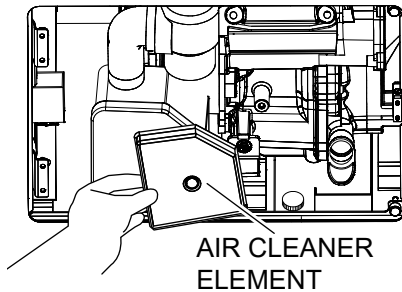

Figure 40. Air Cleaner Element
4. Remove the element (filter) from the air cleaner (Figure 40).